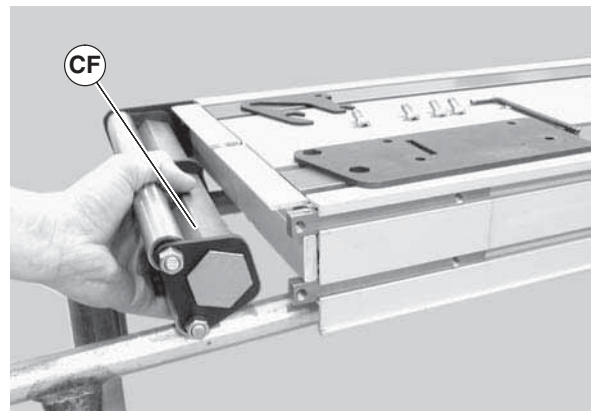

Figure 67
4. Slide the transfer tail pulley assembly (Figure 67, item CF) out of the headplate on the opposite side.